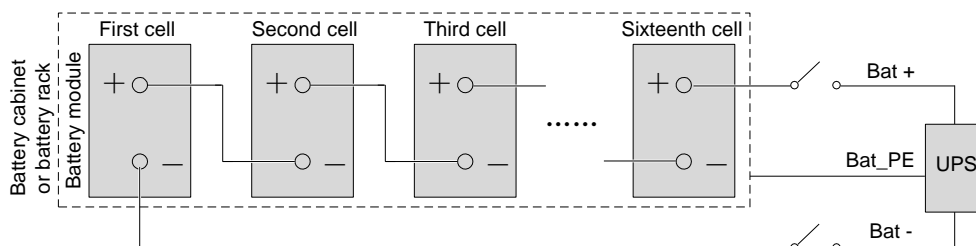

Figure 2-22 Battery module connection principle diagram
The default battery number of the UPS is 16 cells. The principle diagram is shown in Figure 2-22.
1. As shown in Figure 2-22, a DC battery MCB must be added between the battery string and the main UPS.